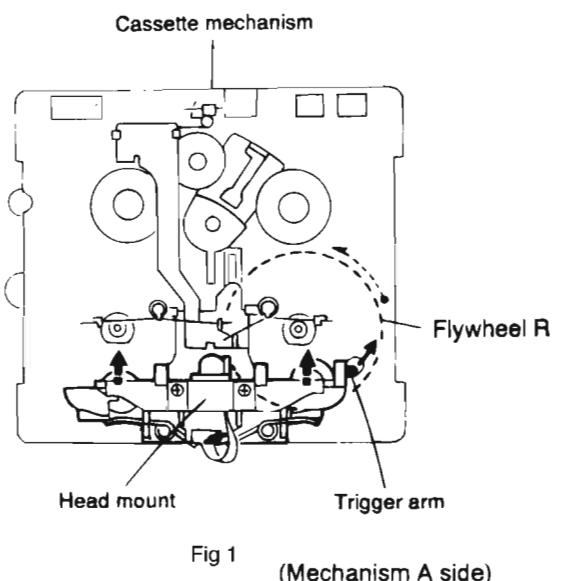

Fig 1
1. While shifting the trigger arms seen on the right side of the head mount in the arrow direction, turn the flywheel R in counterclockwise direction until the head mount has gone out with a click (See Fig 1).
(2) Life of the laser diode (Fig.1)
(Fig.1)